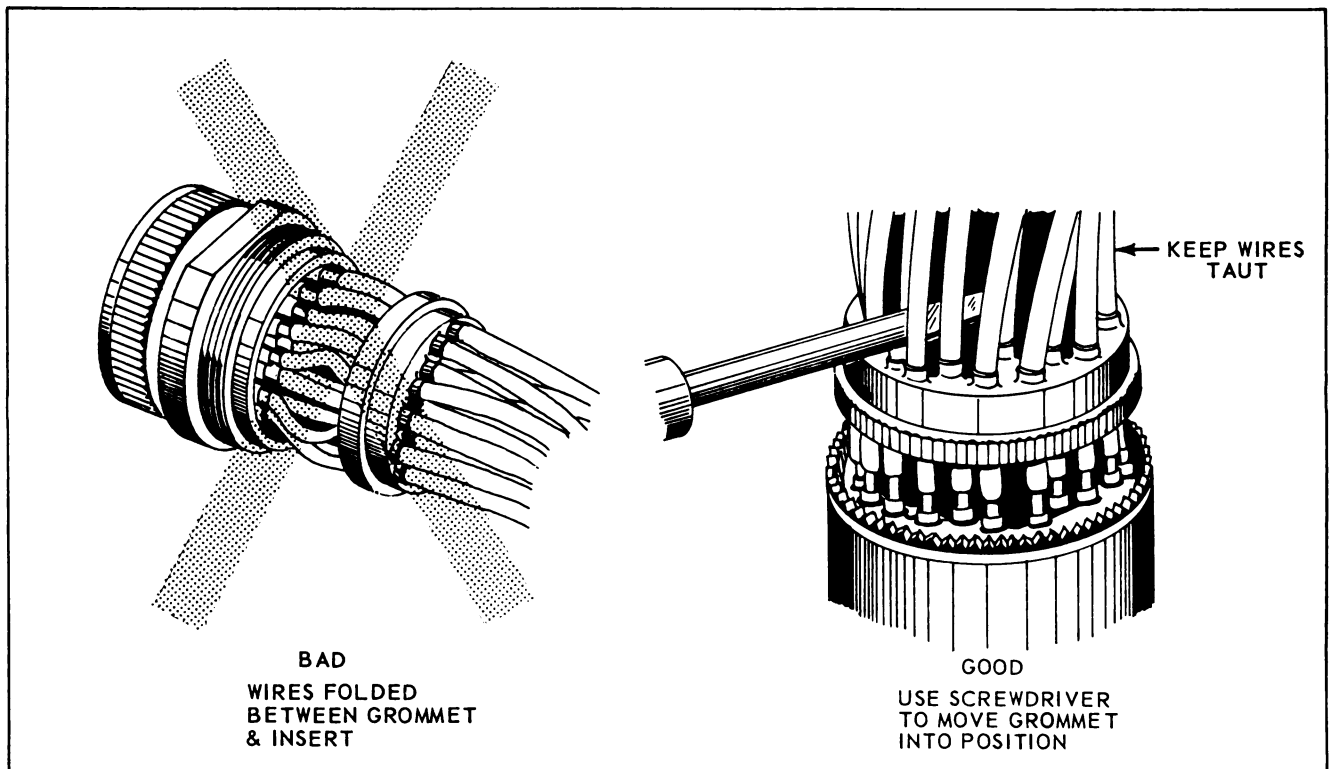

Figure 3-63. Cannon Class E Connector - Grommet Installation
g. Slide grommet follower down over wire bundle. Use same caution as in step f. (See Figure 3-63.)